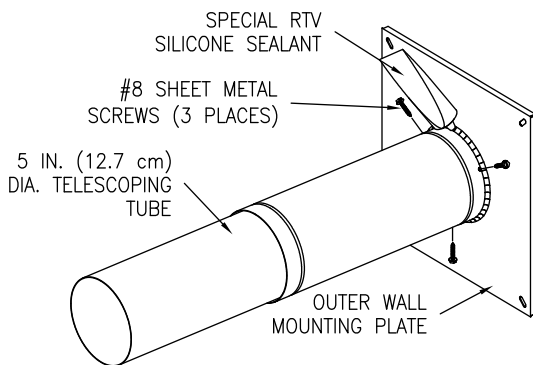

Figure 8
8. Extend the five (5) inch (12.7 cm) diameter telescoping tube to its maximum length. Place the large end of the five (5) inch (12.7 cm) diameter telescoping tube over the collar on the outer wall mount plate. Drill three (3) 1/8 inch (3.0 mm) diameter holes, 120° apart, through the five (5) inch (12.7 cm) diameter telescoping tube into the collar on the outer wall mount plate. Fasten with three (3) #8 sheet metal screws (supplied). Using the supplied special RTV silicone sealant, apply a sufficient amount to seal the joint (See Figure 8).